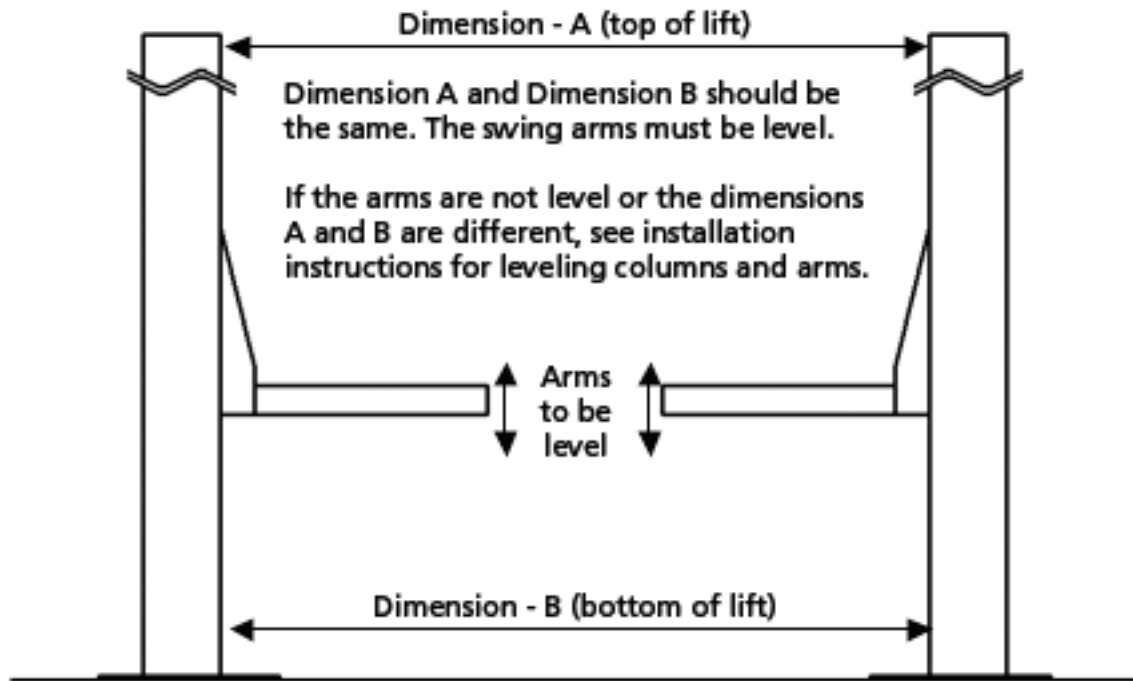

Figure 4 Column Squaring and Arm Leveling
6. Measure the distance between the closest corners of the columns as shown in Figure 3. The distance between the top and the bottom of the columns at this point must be the same. Adjust the loose column until the distance between the two columns is the same top and bottom (parallel), as shown in Figure 4. Check that the locator marks of the loose column are still aligned with the chalk line.